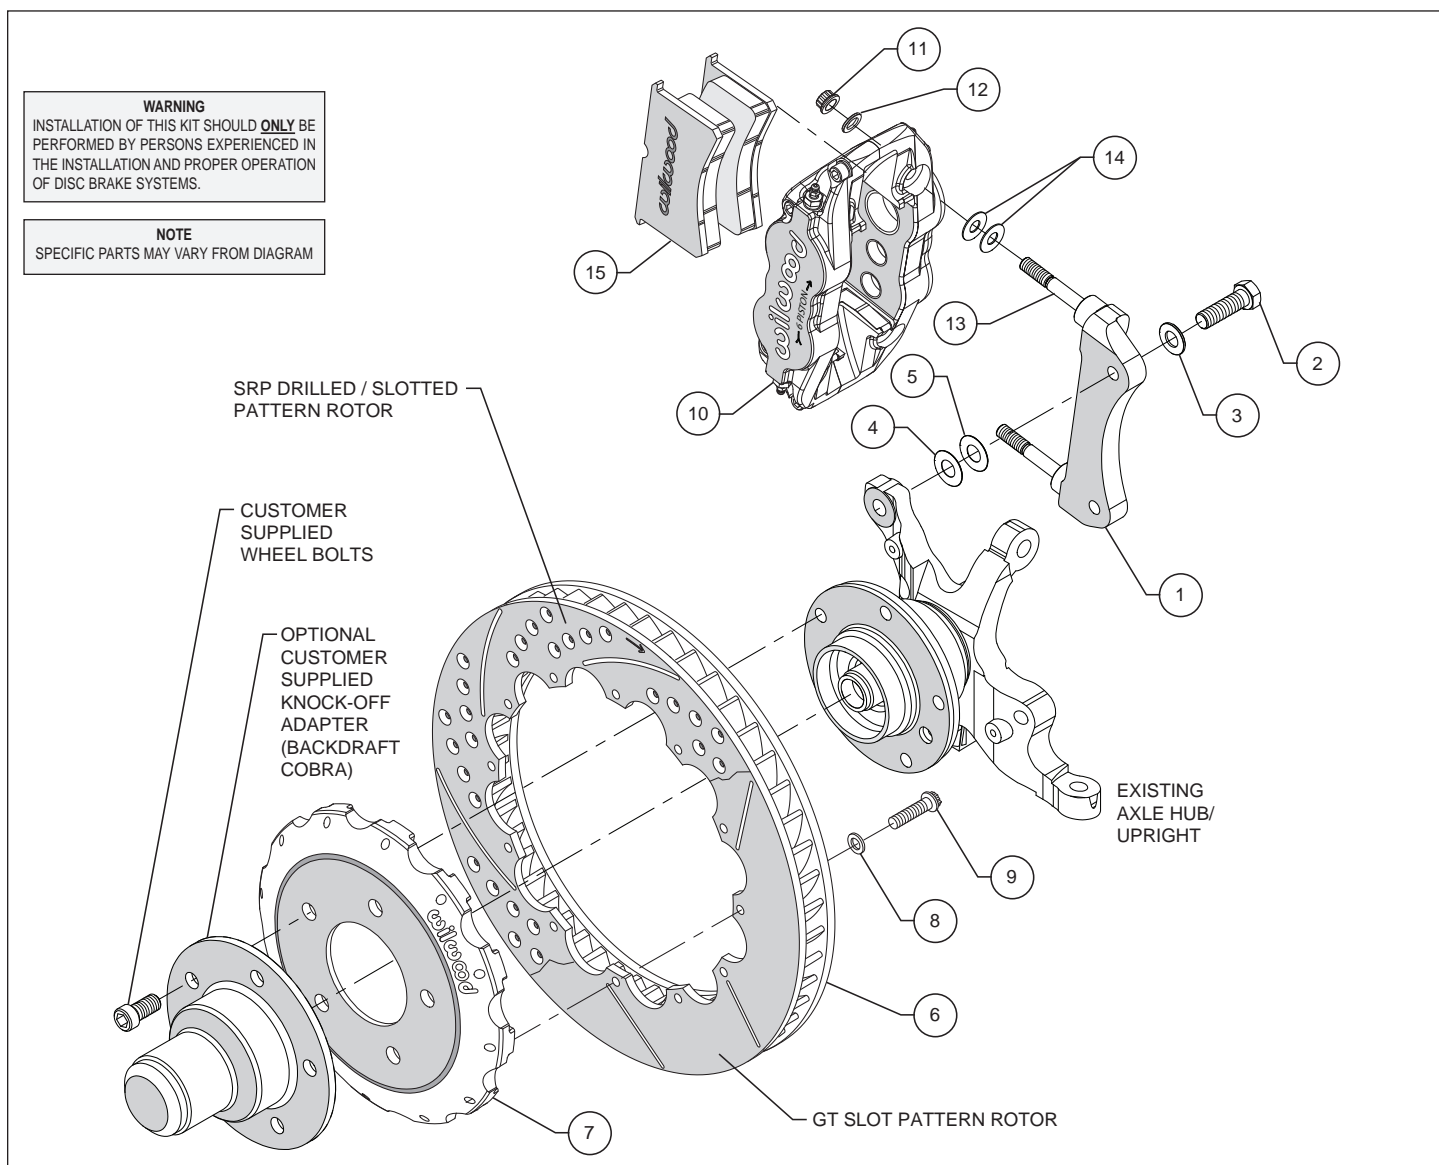

Figure 1. Typical Installation Configuration
Assembly Instructions (numbers in parenthesis refer to the parts list and Figure 1 on the preceding pages):
- The caliper mount bracket assembly (1) should initially be installed with clean, dry threads on the mounting bolts. Orient the bracket as shown in Figure 1 and install using mount bolts (2) and washers (3). Initially place one each .033" thick shim (4), and .015" thick shim (5) on each bolt between the bracket and upright, Figure 1. Temporarily tighten the mounting bolts. **NOTE: The bracket must fit squarely against the mount bosses on the backside of the upright.** Inspect for interference from casting irregularities, machining ridges, burrs, etc. Later, after the caliper alignment has been checked, the mount bolts will be secured using *Loctite*®.
- Orient the rotor (6) and the hat (7) as shown in Figure 1. Attach rotor to hat using bolts (9) and washers (8). Using an alternating sequence, apply red *Loctite*® 271 to the threads and torque bolts to 155 in-lb. For an added measure of security, the bolts may be safety wired using standard 0.032 inch diameter stainless steel safety wire as shown in Figure 5. Please refer to Wilwood's data sheet DS-386 (available at www.wilwood.com/Pdf/DataSheets/ds386.pdf) for complete safety wire installation instructions.
- Slide the hat/rotor assembly (6/7) onto the axle hub. **NOTE: The hat must fit flush against the axle hub or excessive rotor run out may result.** Install the optional customer furnished knock-off over the hat/rotor assembly as shown in Figure 1. Install three customer supplied wheel bolts (finger tight) to keep the hat/rotor and knock-off assembly in place while continuing with the installation.
- **NOTE: This kit contains distinct right and left hand calipers that must be mounted in a specific direction, as described below.** Lubricate the caliper mounting studs (13) with lightweight oil. Initially place two .035" thick shims (14) on each stud between the caliper and the bracket, as shown in Figure 1. Mount the caliper (10) onto the bracket (1) using lock nuts (11) and washers (12), Figure 1. Temporarily tighten the lock nuts. Ensure that the caliper is mounted so the largest pistons are at the rotor exit end of the caliper, in relation to the direction of the rotor. View the rotor (6) through the top opening of the caliper. The rotor should be centered in the caliper. If not, adjust by adding or subtracting shims (4 and/or 5) between the bracket and the upright. Always use the same amount of shims on each of the two mounting bolts. Once the caliper alignment is correct, remove the bracket mounting bolts one at a time, apply red *Loctite*® 271 to the threads, and torque to 65 ft-lb.
- Remove the caliper center bridge pad retainer bolt, nut, and tube from the caliper. Insert the brake pads (15) into the caliper, with the friction material facing the rotor, Figure 1. Check that the top of the brake pad is flush with the outside diameter of the rotor. If not, adjust by adding or subtracting shims (14) between the caliper and the bracket. After the caliper pad height is set, torque the caliper lock nuts (11) to 30 ft-lb. Secure the brake pads in place with the center bridge pad retainer tube, bolt, and lock nut. The locknut should be snug without play in the bolt or tube. Be cautious not to over tighten.